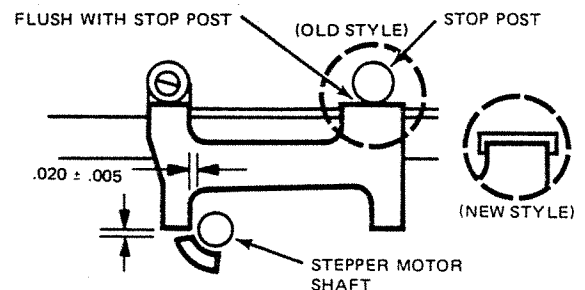

FIGURE 6. CARRIAGE LIMITER ADJUSTMENT
- Position the stop until it is flush with stop post (old style) or in the slot (new style) on the carriage assembly. Reference figure 6. Adjust the track zero cam stop horizontally and vertically until there is $.020 \pm .005$ between the stop on the acuator cam and the stepper motor shaft. Reference figure 6.